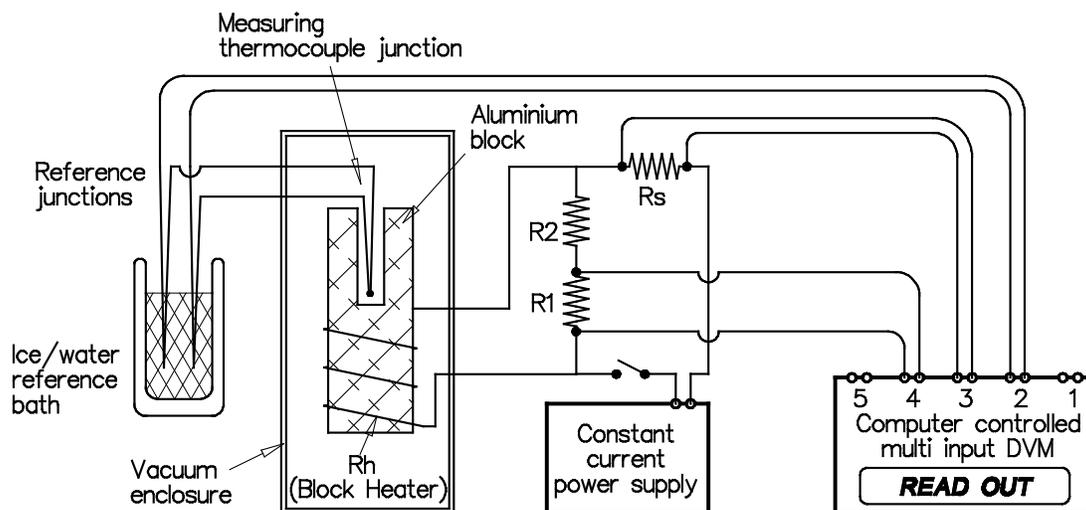
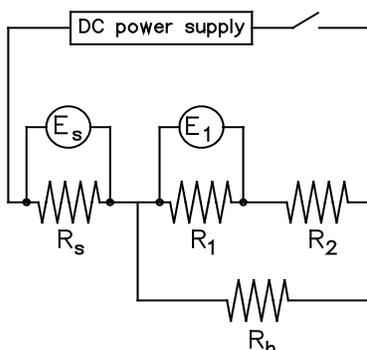

Figure 1. Schematic diagram of the Low Temperature Heat Capacity Experiment set-up.
Figure 2. Diagram of the heating circuit used in the Low Temperature Heat Capacity Experiment.
The potentiometer set-up described in the text book is not used in your experimental arrangement. It has been replaced by a precision DVM (digital voltmeter) or, if available, a computer controlled scanning DVM.¹ The instructor will brief you on how to collect the data with these instruments. Fig. 1 shows a sketch of the set-up (somewhat different from the diagram shown in S&G) and Fig. 2 shows the heating circuit diagram.
- 4) that the block heater (resistance R_h – see Fig. 2) is actually connected (the lower large double-pole double-throw switch – DPDT2 – should be pointing towards the vacuum line).